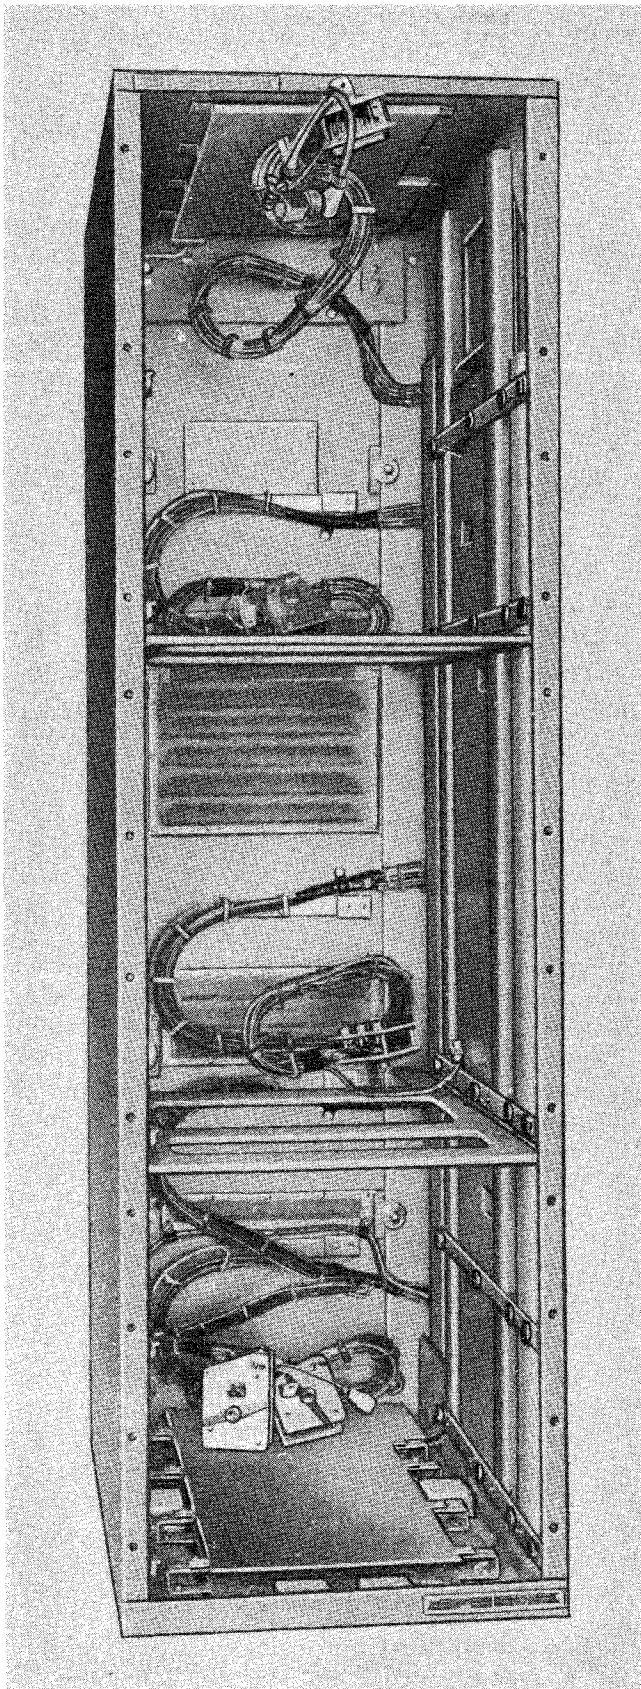

Figure 1-10. Electrical Equipment Cabinet
(6) ELECTRICAL EQUIPMENT CABINET CY-1571/SRT (TRANSMITTER GROUP CABINET). (See figure 1-10.)—The transmitter group cabinet houses the five drawer-type chassis described above. It consists of a rigid welded steel frame with thin side, rear, and top panels. Struts are provided to stiffen the structure. The bottom is arranged to bolt to Mounting MT-1423/SRT or to one of the booster cabinets. Provisions for lifting eyes are incorporated in the top. Each drawer chassis slides into the cabinet on a slide and track arrangement, which permits easy insertion and removal. Ducts in the sides of the cabinet distribute the filtered forced air from the mounting to ventilate the transmitter chassis. Provision is made at the top rear of the cabinet for attaching two side sway mounts. Seven terminal boards are provided on the bottom of the cabinet and one on the lower left rear of the cabinet to which all transmitter group external connections are made. R-f